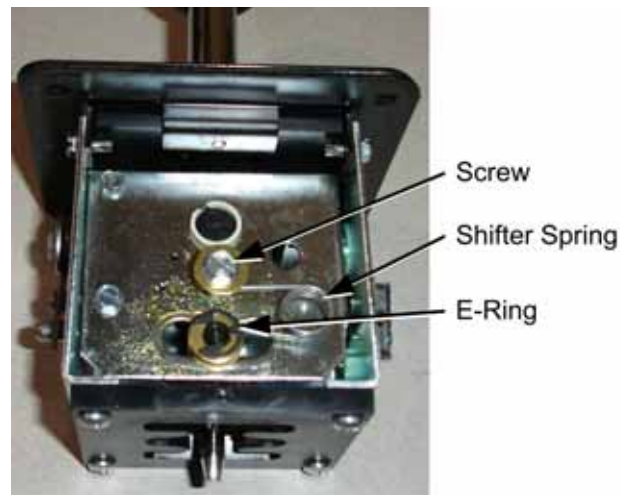

Figure 9. Six-Speed Shifter Spring Replacement
2. Make a note of how the components are assembled, and then remove the E-Ring and Screw shown in Figure 9, and remove the spring and flat washers.